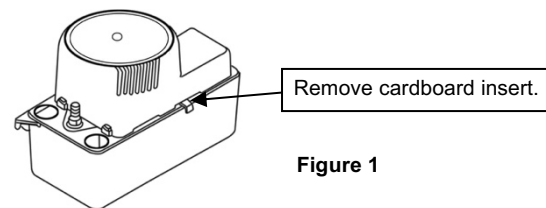

Figure 1
- Carefully unpack the pump. Remove the cardboard packing from the motor cover air slots. Carefully slide the packing away from the pump. This packing is used to prevent switch movement during shipment (Figure 1).